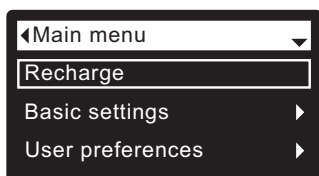

FIG. 29
During normal operation (status screens rolling), press the filter's SELECT (O) button to display the Main menu (See Figure 29). This menu and its subsidiary screens are used to control these operations: